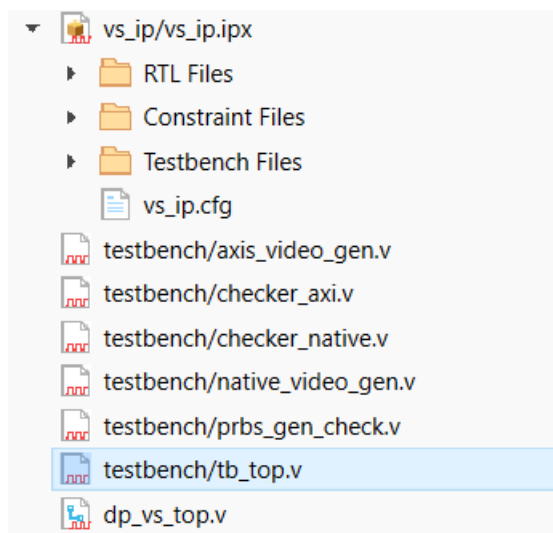

Figure 5.8. Opening tb_top.v file
- Open the **tb_top.v** file as shown in Figure 5.8.